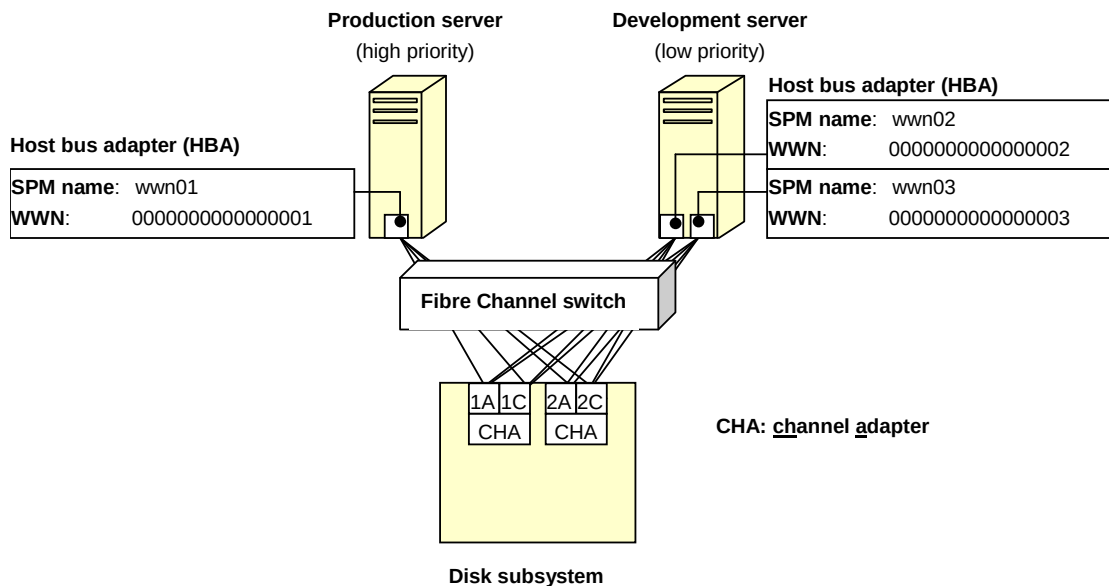
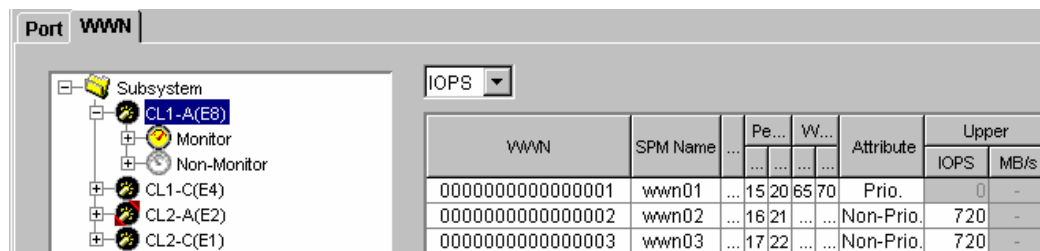

Figure 4.4 Network B (Many-to-Many connections between HBAs and Ports)
Figure 4.8 Setting Upper Limits
Figure 4.4 gives an example of a network in which a production server and a development server are connected to the disk subsystem (Henceforth, this network is referred to as network B). The host bus adapter (wwn01) in the production server is connected to four ports (1A, 1C, 2A and 2C). The host bus adapters (wwn02 and wwn03) in the development server are also connected to the four ports.
3. Set priority to host bus adapters using the **WWN** tab of the **Server Priority Manager** window. In network B, the production server is given high priority and the development server is given low priority. If your network is configured as in Figure 4.4, you must give high priority to wwn01 and low priority to wwn02 and wwn03.
If your network is configured as shown in Figure 4.4, you must do the following (see Figure 4.8):
Figure 4.8 is the result of setting the upper limit of 720 to the paths between 1A and the non-prioritized WWNs. For details on how to set an upper limit, see section 8.3.4.